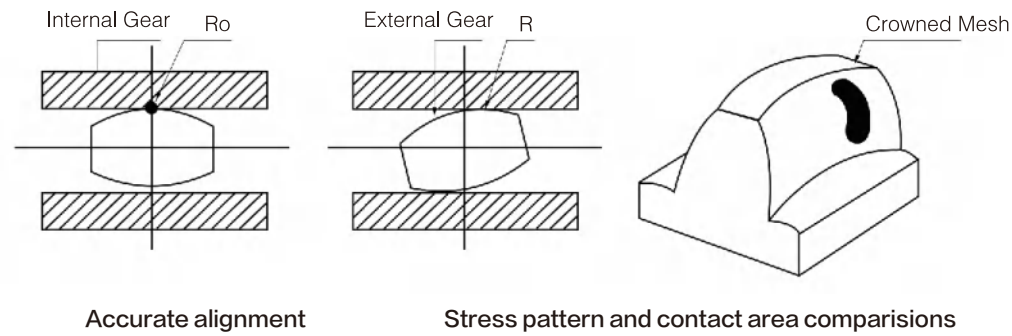

Fig.3
2. When there is no displacement deviation in the working condition, and there is no deviation in the coupling installation, the drum shaped tooth center of the inner ring gear ( $R_o$ ) Contact with the outer gear sleeve, and when there is eccentricity and deflection angle, contact at a certain distance ( $R$ ) from the center point of the tooth profile. (see Fig.3)